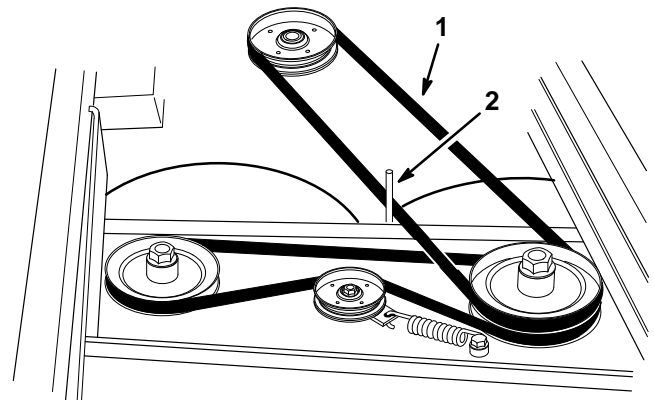

Figure 7
8. Check the position of the belt guide. The guide should be positioned about 1/8" (3 mm) away from the belt. Adjust the belt guide as necessary (Fig. 7).